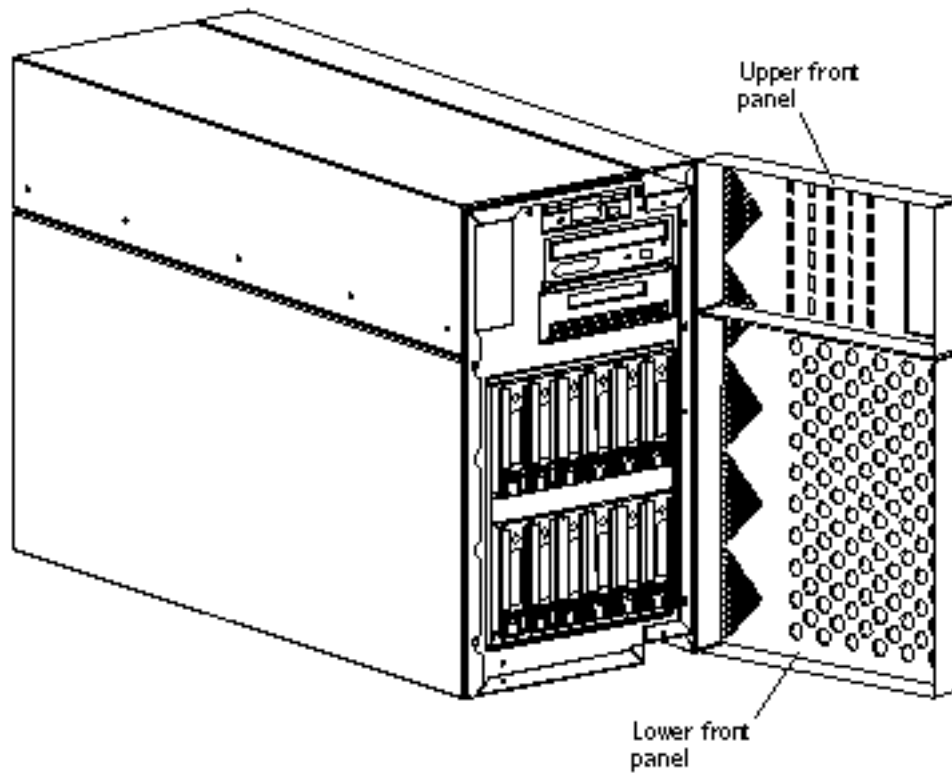

Figure 2-2 Opening the Upper and Lower Front Panels
1. **Grasp the handle on the left side of the upper front panel and pull sharply to open the panel (Figure 2-2).**
2. Grasp the handle on the left side of the lower front panel and pull sharply to open the panel (Figure 2-2).